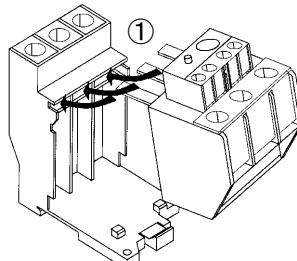

Fig.2
- (2) 把热过载继电器的电源侧端子插入单独安装单元的端子内。(Fig. 2)
- (2) Insert the power-supply-side terminal of the thermal overload relay into the terminal of the separate-mounting unit. (Fig.2)